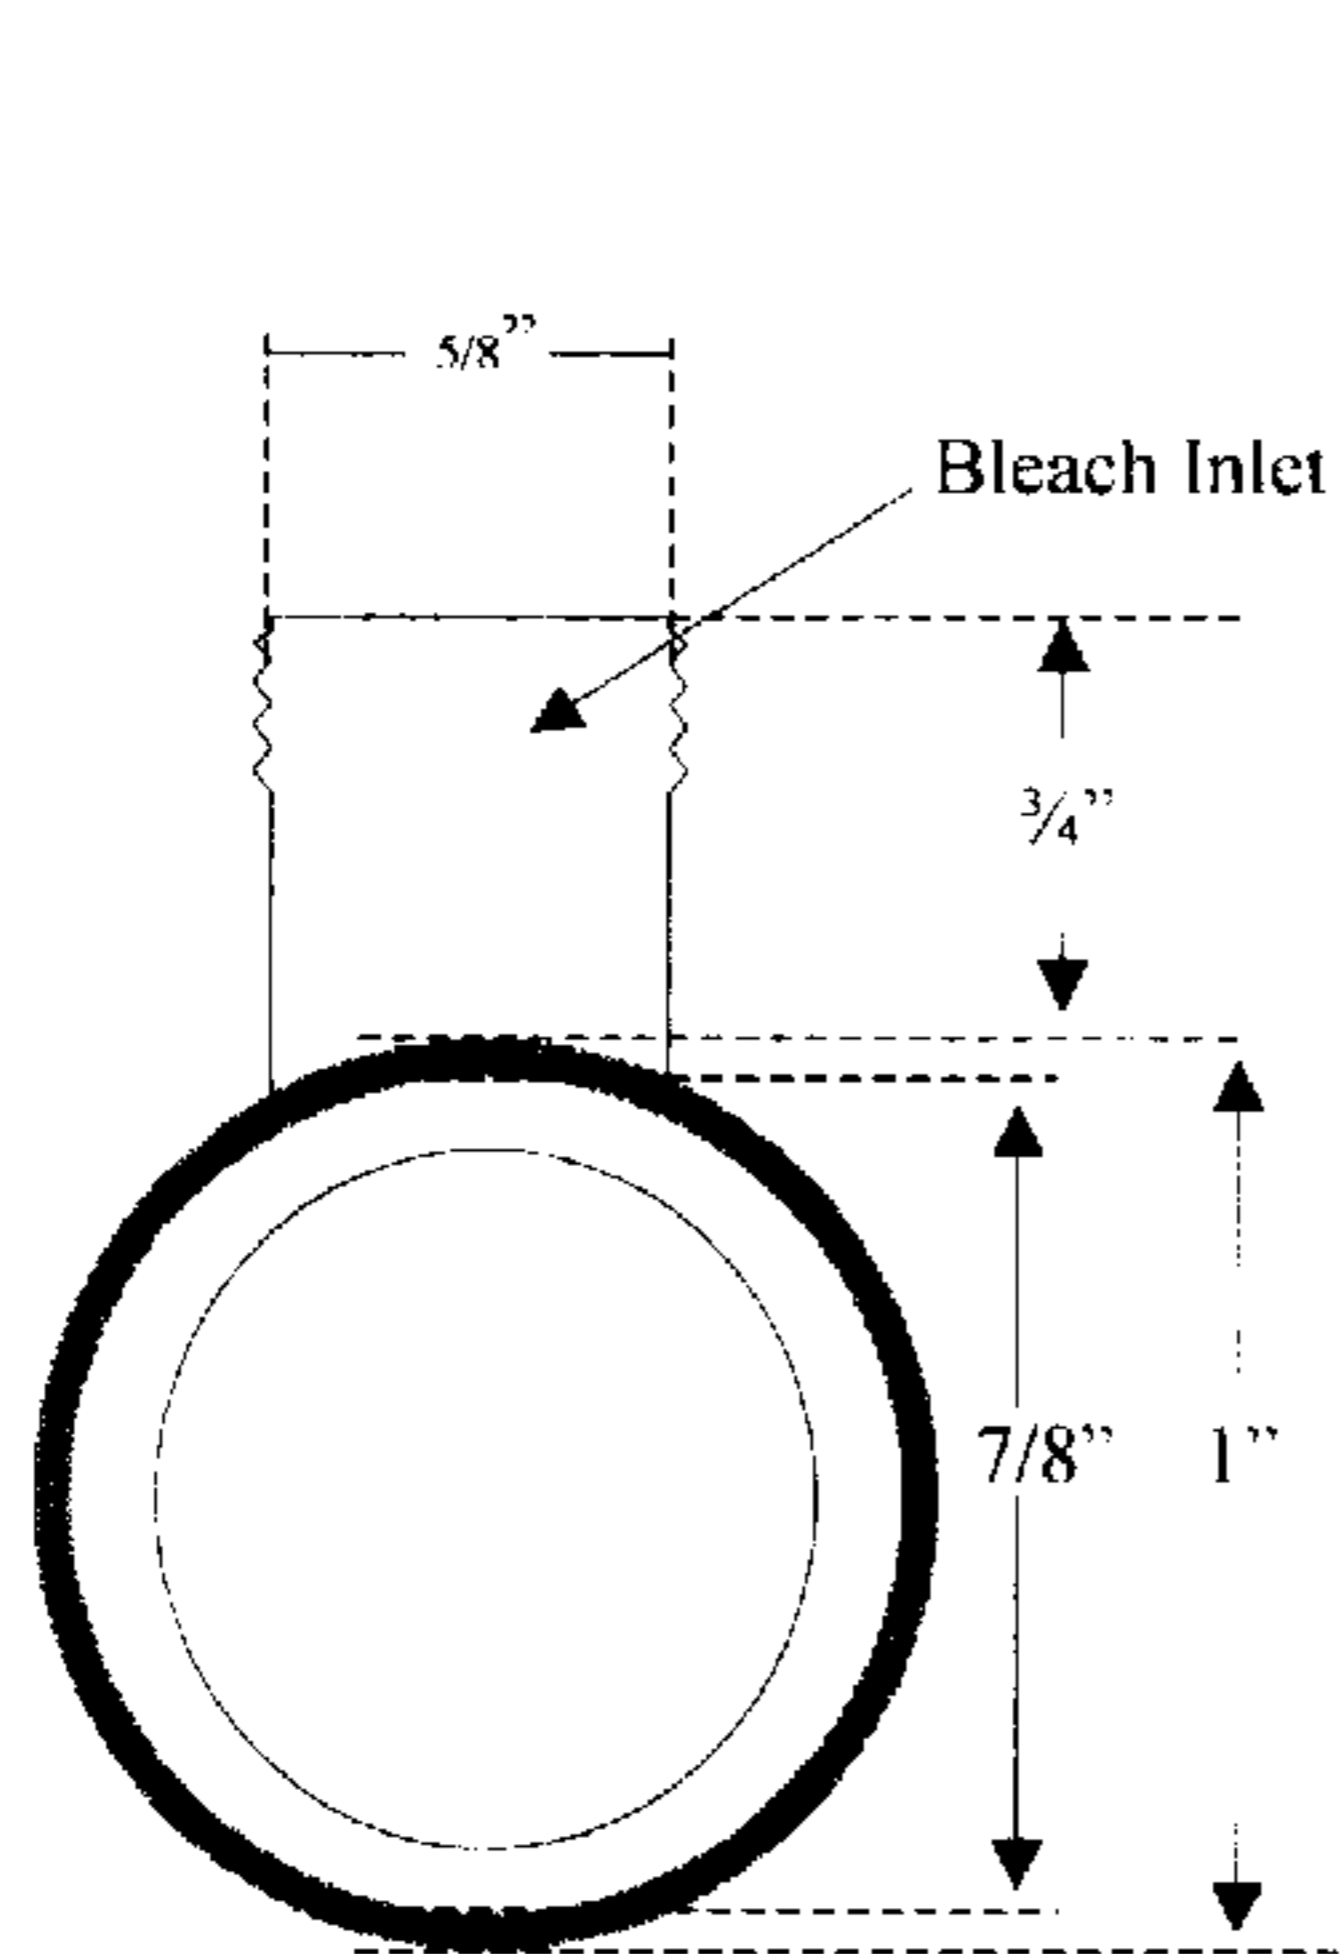

FIG 5: Cross Sectional view as seen from slip connection end
5. FIG. 5: Cross Section View at Slip Connection End